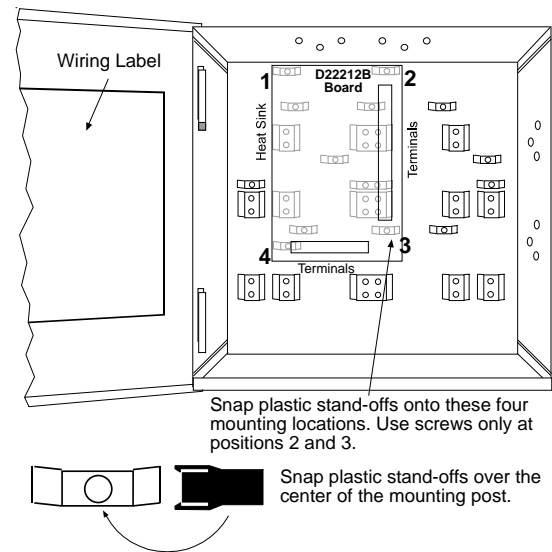

Figure 1: D2203 Enclosure
3. Mount the panel to the enclosure as shown in *Figure 1*. Mount so the heat sink is at the left and the terminals are at the right and bottom. Be sure to use the four plastic stand-offs between the enclosure and the board (then secure with the two screws provided - at the right top and right bottom).